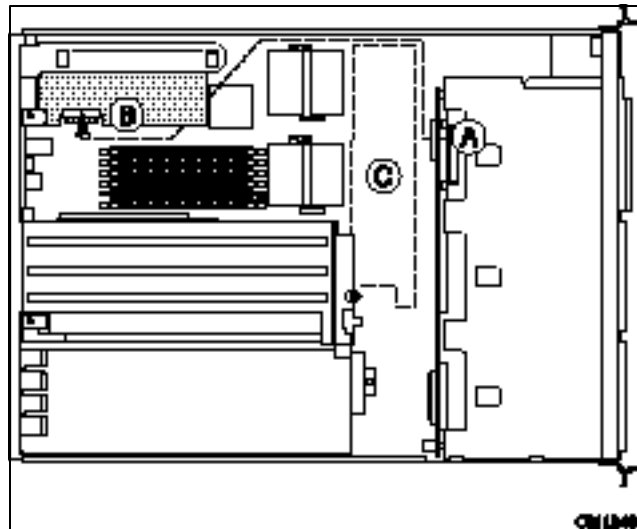

Figure 28. Cable Routing: Tape Drive to SCSI Controller on L-P PCI Card
4. Connect the cable to the tape drive (see Figure 28, A, on page 41) and carefully route the folded and taped section on the chassis floor between the fan assembly (C) and the tape drive (A).
5. Connect the cable to the SCSI controller (B) on the low-profile PCI card.